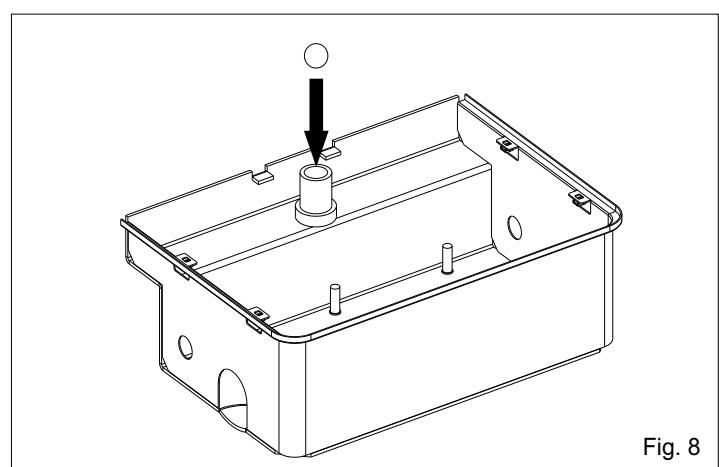
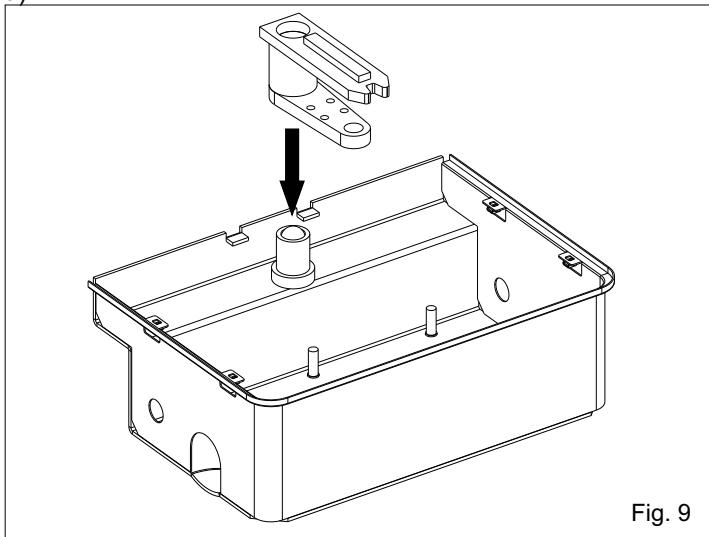
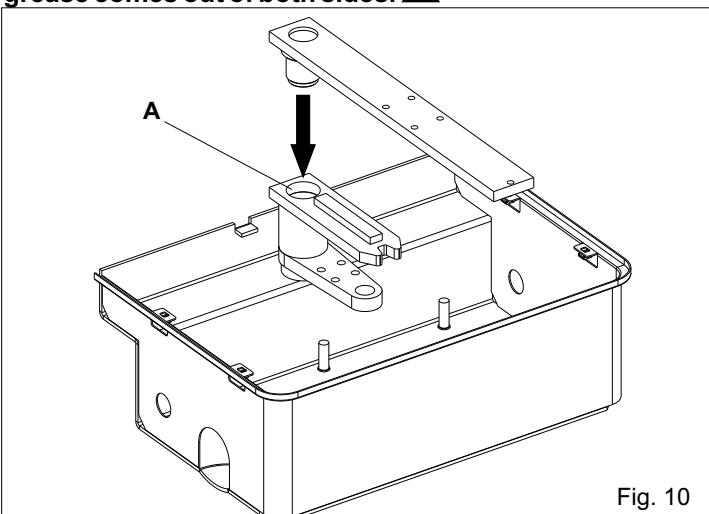

Fig. 8
Fig. 9
Fig. 10
**2.4.** Insert the ball into the perforated shaft (Fig. 8)
**2.5.** Insert the handle bar device into the perforated shaft (Fig. 9)
**2.6.** Grease plentifully the hole A and insert the leaf device (Fig. 10)
**N.B.: During the insertion of the units lubricate them with the supplied grease (Fig.8, Fig.9, Fig.10).**